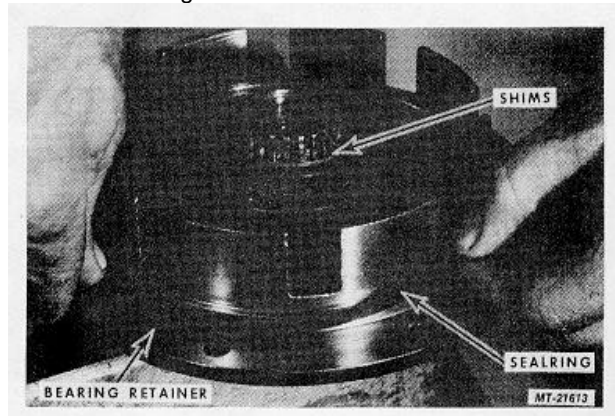

Fig. 83
46. Install Lathe Cut Sealing, Fig. 83. Be sure Sealing is not twisted. and is seated